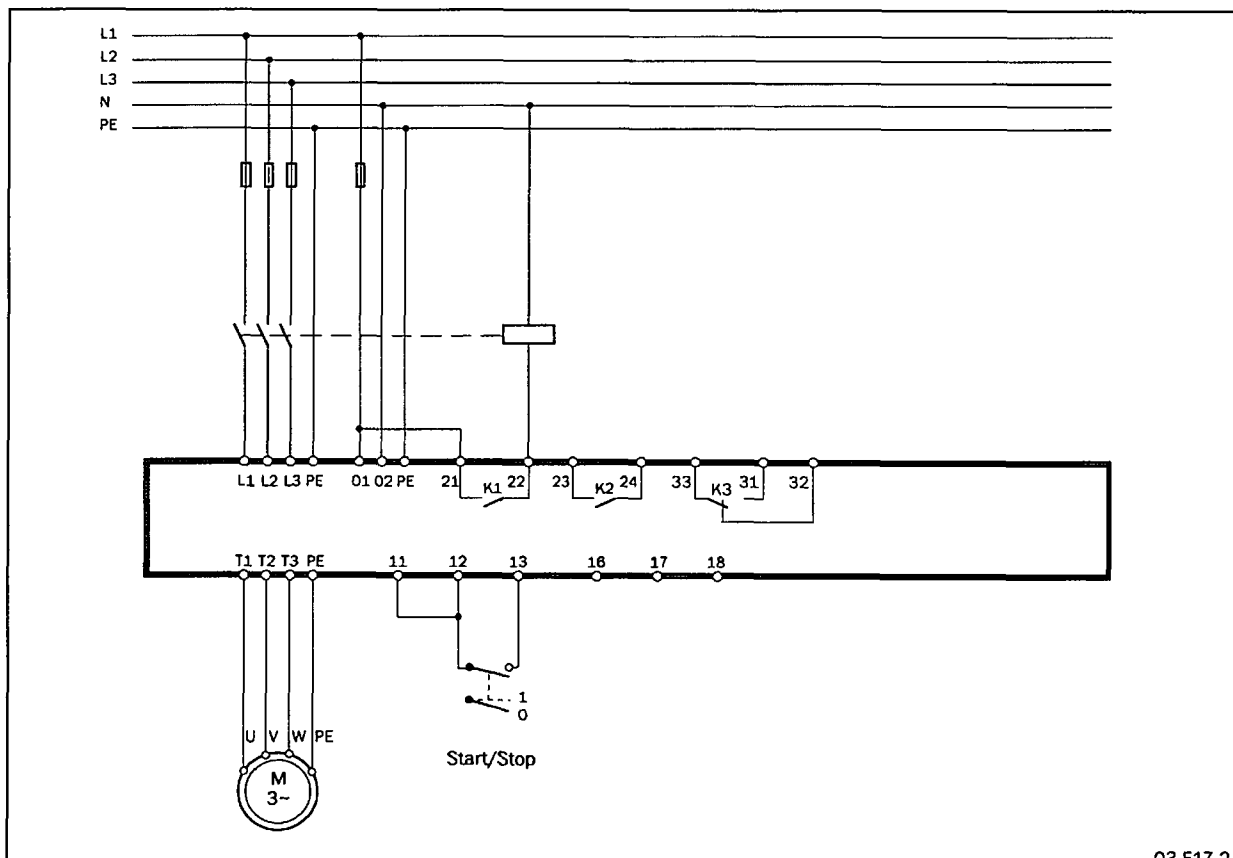

Fig. 25 Standard wiring.
- Connect the motor circuit according to Fig. 25.